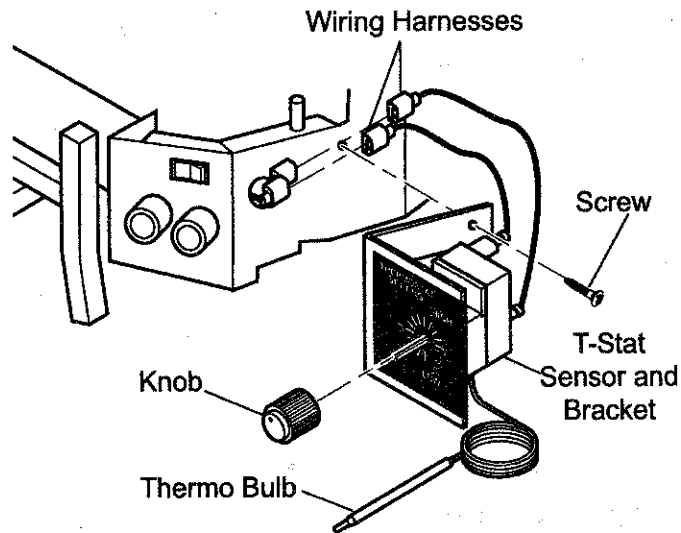

Figure 23 - Installing T-Stat Sensor to DEB Base with Screw Provided
5. Route wiring harnesses through large hole on side of unit. Mount bracket to side of unit with screw provided. *See Figure 23.*
6. Attach wiring harness to either TP/TH and TH on control valve or to existing wiring harness with two (2) 0.250" male spade terminals for remote or t-stat option. *See Figures 23 and 24.*
7. Install knob to shaft of t-stat sensor. *See Figure 23.*